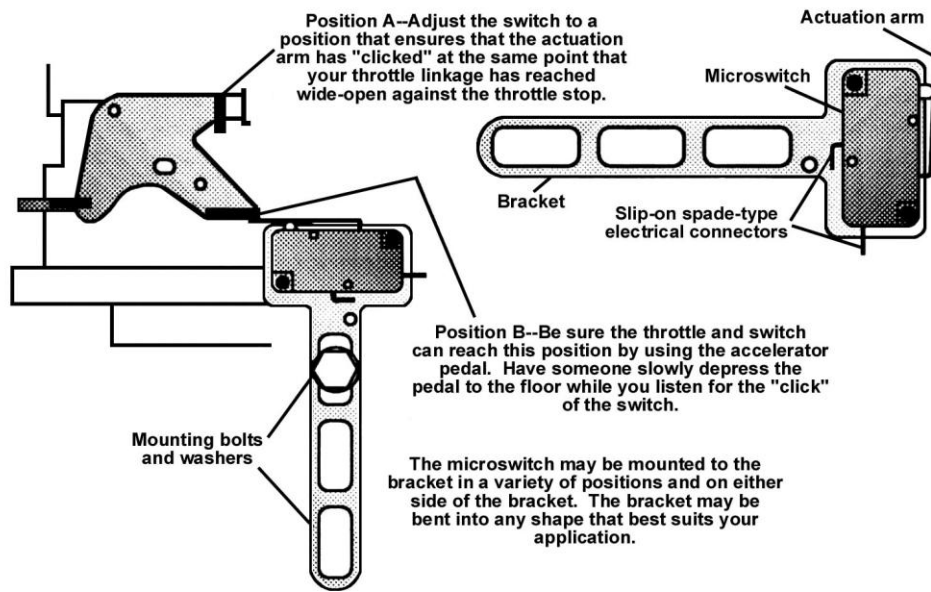

Figure 6 Microswitch Mounting
- B. Adjust the microswitch to trigger at wide-open throttle by adjusting the microswitch's position to ensure the actuation arm of the microswitch —“clicks” at the same point your throttle linkage reaches wide-open throttle against the throttle stop (Figure 6, Position A).
- C. Ensure that the throttle and switch can reach the activation position, as shown in Figure 6, Position B, by using the accelerator pedal. Have an assistant slowly press the pedal to the floor while you listen for the —“click” of the microswitch.